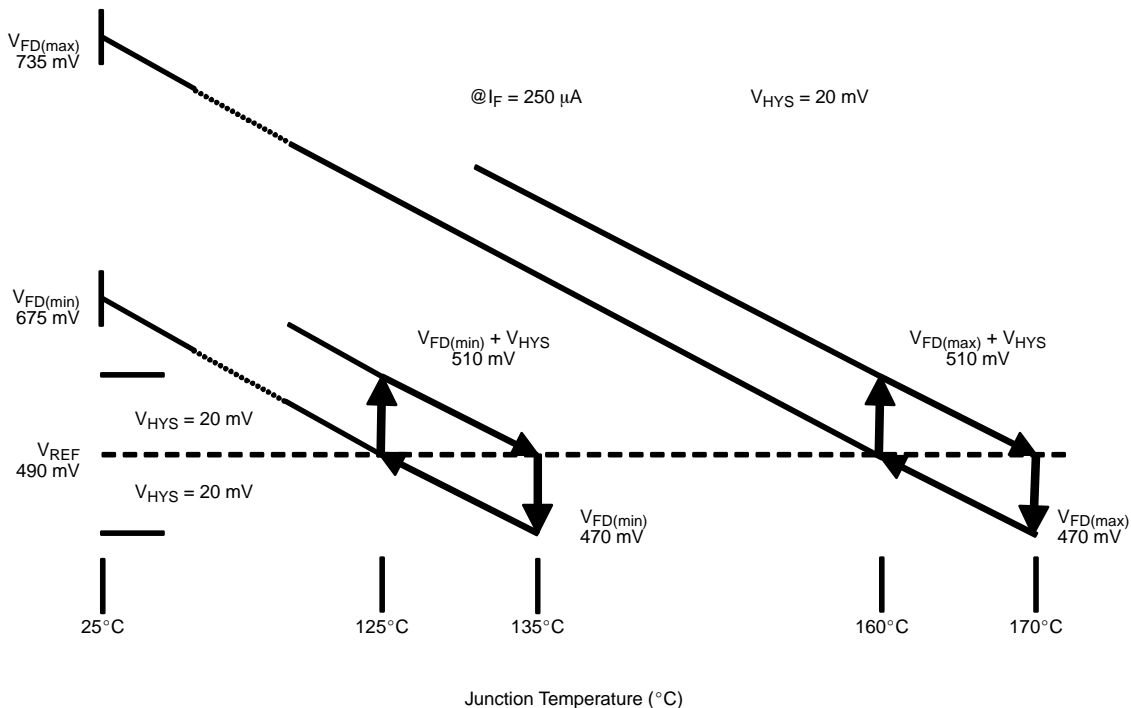

FIGURE 7. Cyclical Operation Under Fault Condition
The fault condition arises only when the MOSFET is on, and when any one or more of the following conditions are present: (1) overload, (2) short-circuited load, (3) overvoltage, or (4) inadequate gate drive. The MOSFET junction and sense diode temperature rise. $V_{FD(max)}$ drops with the rise in the diode/MOSFET junction temperatures. Effectively, the voltage at the non-inverting, '+' input of the op-amp, $V_{FD(max)} + V_{HYS}$, drops (Figure 7). The op-amp output switches to the low state when $V_{FD(max)} + V_{HYS}$ drops below V_{REF} . The MOSFET switches off before its junction temperature exceeds the rated temperature of 175°C.
Now, with MOSFET turned off, the V_{HYS} is removed. The operation shifts from the $V_{FD(max)} + V_{HYS}$ curve to the $V_{FD(max)}$ curve only (Figure 7). This shift ensures jitter free turn-off as the $V_{REF} = 490$ mV is now compared with only $V_{FD(max)} =$
Cyclical operation under fault conditions is highlighted with arrow-headed traces in Figure 7.